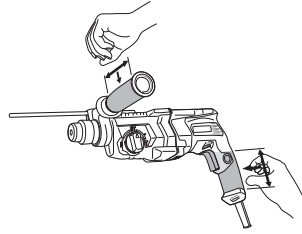

Fig. 17
9. Make sure to securely hold the tool as shown in **Fig. 17** during operation.